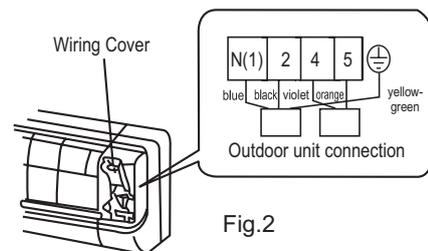

Fig.2
2. Remove the wiring cover. Connect and fix the power connection cord and signal control wire to the terminal board. As shown in Fig.2